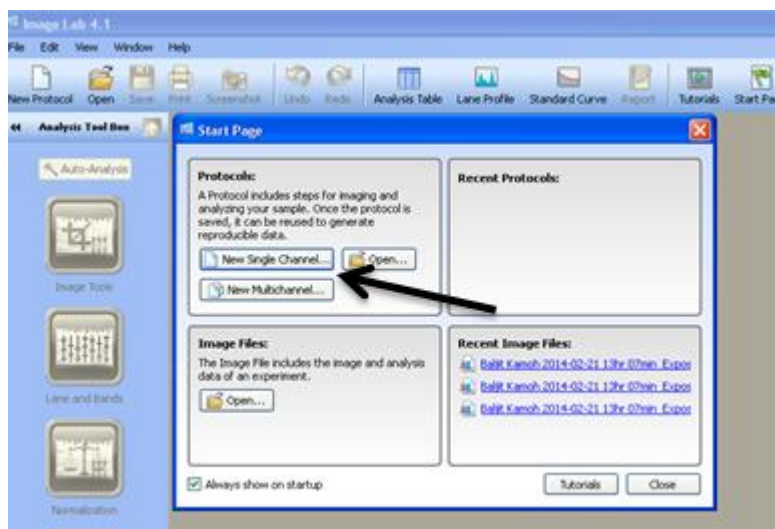

Figure 20
- 8.2.6. Click on the 'New Single Channel' icon (Figure 20).